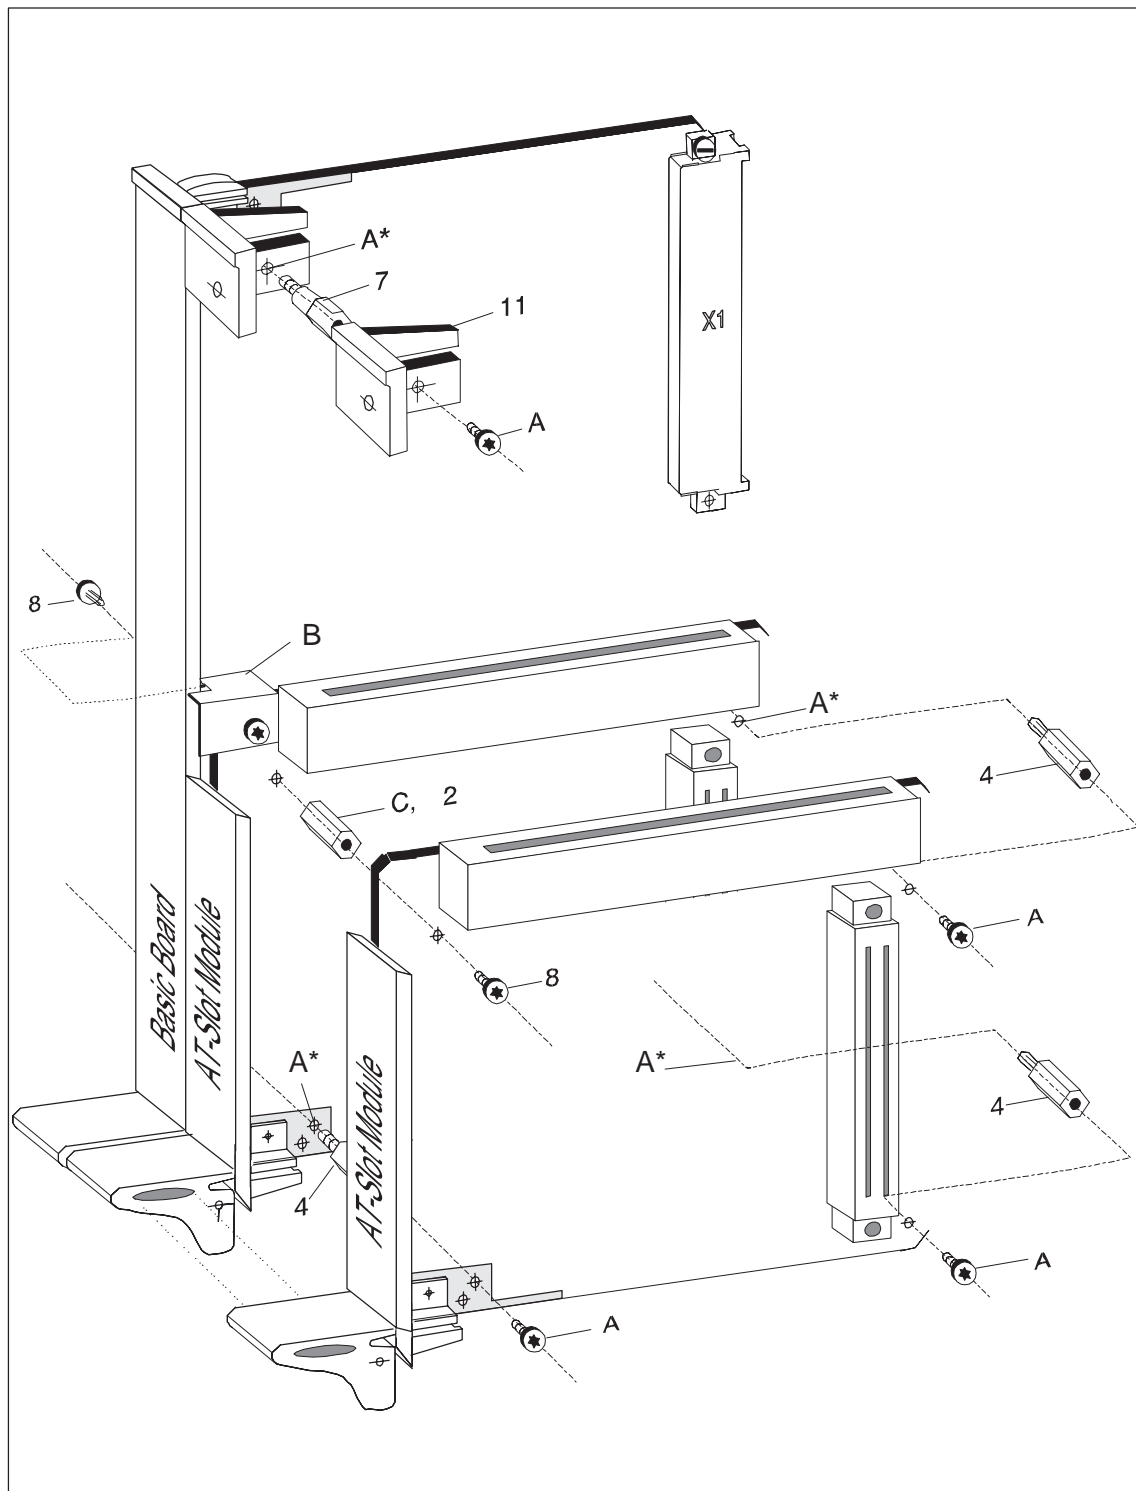

Figure 2-9 Assembly of Two AT Slot Modules onto the Basic Board
5. If you do not wish to fit a further AT slot module, screw the two modules together using the three screws identified “A” in Figure 2-9 and fit the part “Front panel, top” (“11”) onto the spacer bolt “5.”
Proceed as follows according to Figure 2-9 in order to assemble the second AT slot module:
Remove the four screws identified "A." The screws are still required for the further assembly (identified by "A" in Figure 2-9). Unscrew the clamp "B" and remove the first AT slot module from the basic board.
As illustrated in Figure 2-9, screw spacer bolt '4' into the first AT slot module.
4. Screw the two AT slot modules together as in Figure 2-9 using the three screws identified "A" and one screw identified "8."
5. Fit the first part, "Front panel, top," onto the spacer bolts identified by "5" in Figure 2-9; tighten the part using spacer bolt "7" (Figure 2-9). Using the fourth screw "4", subsequently fit the second part "Front panel, top" onto the spacer bolt "7" screwed in for securing the first part.